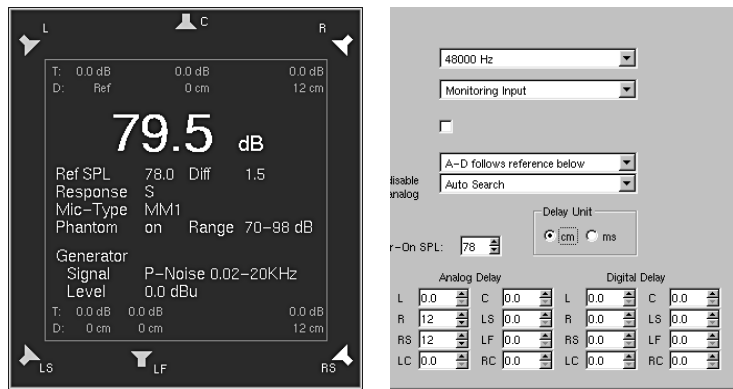

Fig. 6-50: Comparison of the entered positive delay values in the CAL instrument and the displayed values on the Audio System menu page
- With the selection of **cm** as the unit the left front speaker (L) is used as the reference point (marked with **Ref** in the display of the MONITORING instrument). Loudspeaker positioning according to the ITU standard is assumed as the basis. Deviations from this ideal circle can be set for all loudspeaker positions in the CAL instrument as positive (larger) and negative (smaller) distance values in cm, separately for analog and digital outputs:
- Entering positive values in the CAL instrument delays the selected channel and moves it back acoustically. The corresponding values are also displayed on the menu page here in the list boxes for the delay. See Fig. 6-50 on the next page.